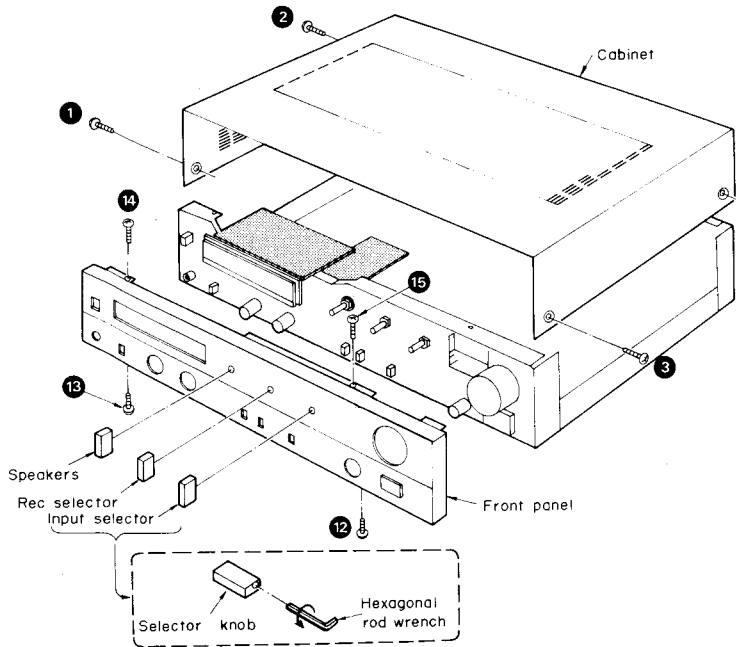

Fig. 4
1. Remove the 4 setscrews (1 ~ 4 in Fig. 4) of the cabinet.
2. Remove the 3 selector knobs. (Use hexagonal rod wrench for M3 screws.) Refer to Fig. 4.
3. Remove the 4 setscrews (12 ~ 15 in Fig. 4) of the front panel.